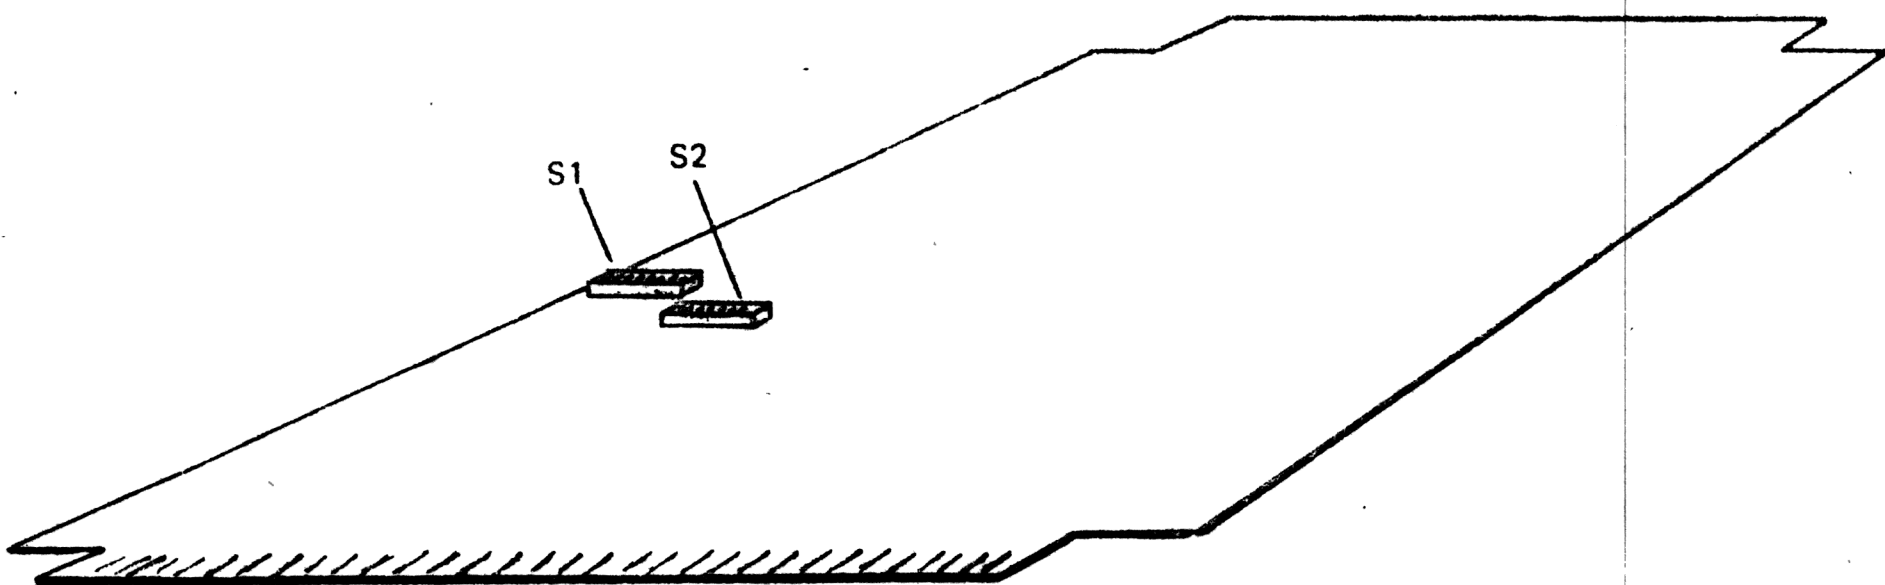

Figure 2. Switch Location
Upper and lower address limits are selected by two sets of switches labeled S1 and S2 located on the memory board (see figure 2). S1 selects the lower limit (LL); S2 selects the upper limit (UL). An input address received on the address bus is compared with the upper and lower address limits. If it is within limits, the memory card is activated.